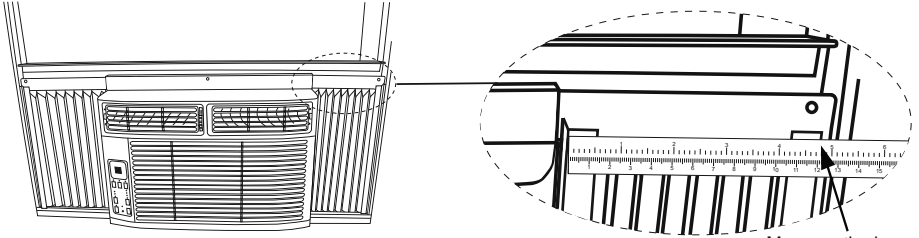
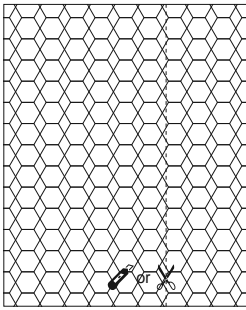
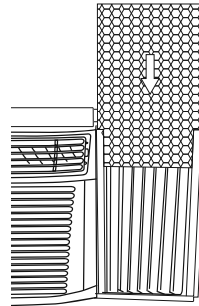

FIG. 10
FIG. 11
FIG. 12
- 7** Measure the width of the inner side curtain with the provided ruler, as shown (FIG. 10). Mark a line on the patterned side of the provided insulation panel according to the measured width, then cut out the insulation panel along the line, as shown (FIG.11). Place the patterned side of the insulation panel to face inside your room, then slide the insulation panel into the frame until the panel goes into the side curtain frame completely. If the insulation panel does not slide in the frame smoothly, trim the insulation panel then try again, until the insulation panel fits the frame, as shown (FIG.12). Repeat these instructions for the other side.